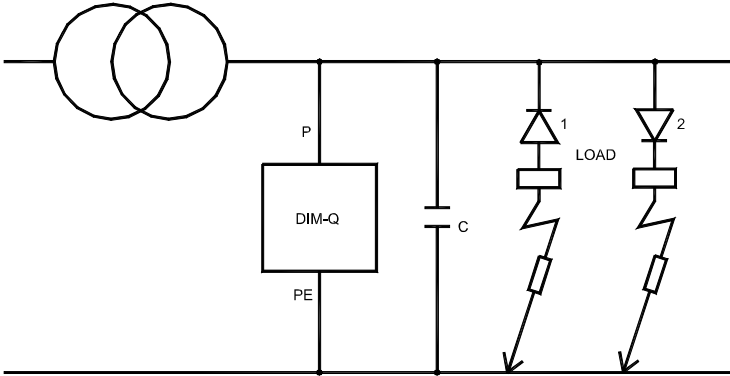

Figure 4
If a DC voltage is detected, but the alarm limit value is not yet reached, the +FAULT or the -FAULT LED will flash to indicate that there is a DC component higher than 50V DC between the power system and earth (PE), but no insulation error below the alarm limit value yet. Figure 4 on the next page illustrates a situation where a DC can occur between the P and the PE input of the DIM-Q.